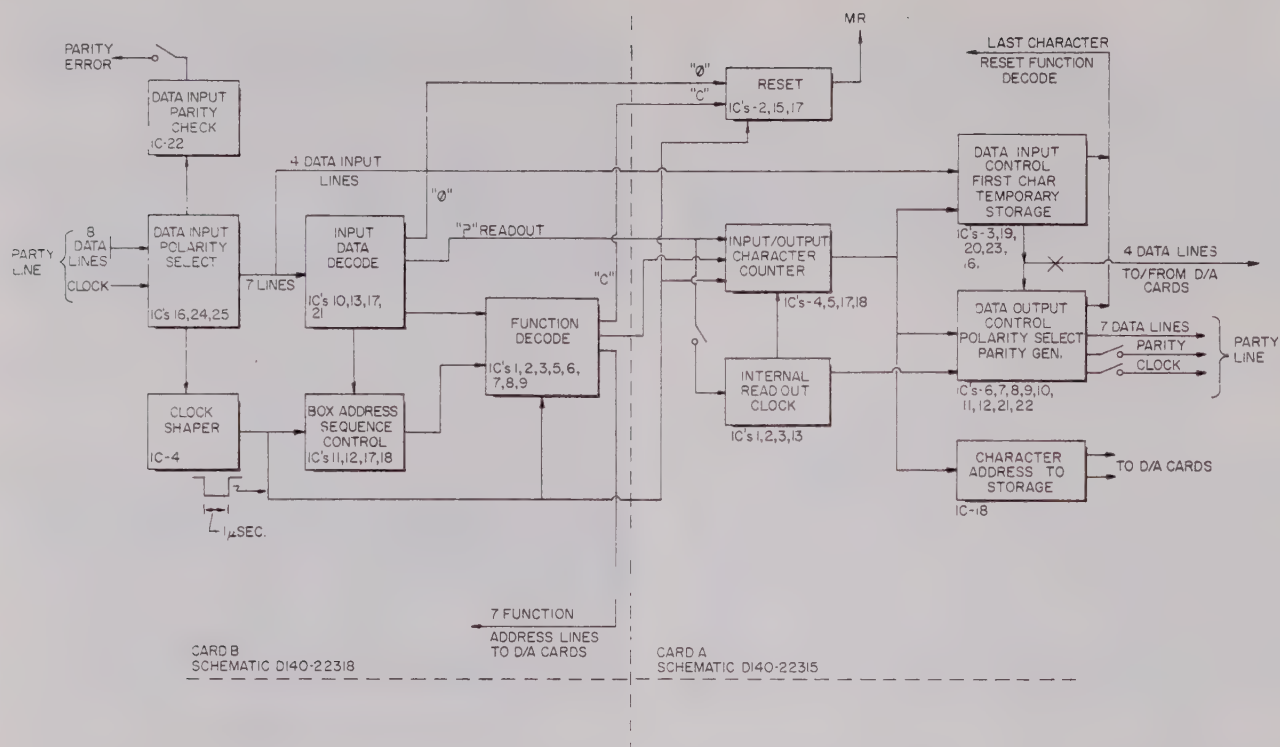

Figure A-1 1501A ASCII Interface Block Diagram
a. **Block Diagram Level.** (See Figure A-1) The block diagram contains the major functions performed along with the IC numbers which make up the logic. The diagram is divided by a dotted line showing which parts of the logic are